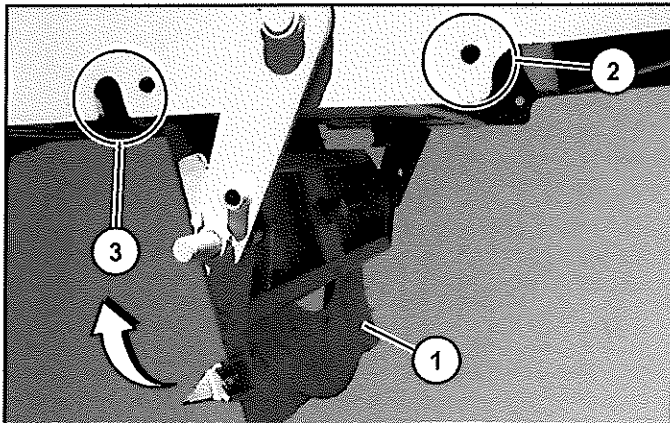

Figure 103
7. Switch the pivot plate (Item 1) from the operating position (Item 2) to the transport position (Item 3), remove the lock bolt. The plate will swing down, rotate up into the transport position (**Figure 103**).